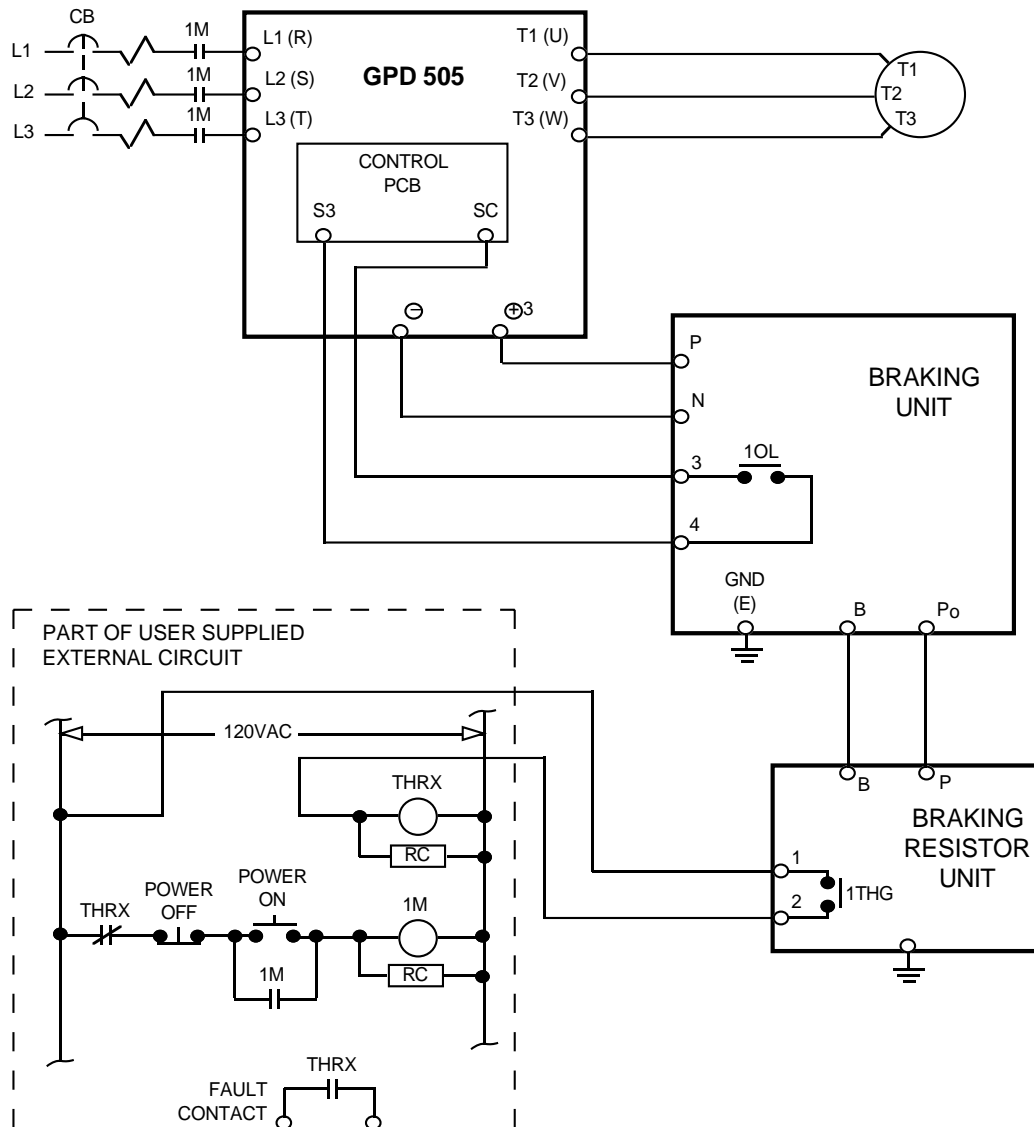

Figure A7-4. Wiring Single Braking Unit and Braking Resistor Unit to Drive
5. If a single Braking Unit and Braking Resistor Unit are being installed, connect them to the drive and external control circuitry according to the chart below and Figure A7-4.